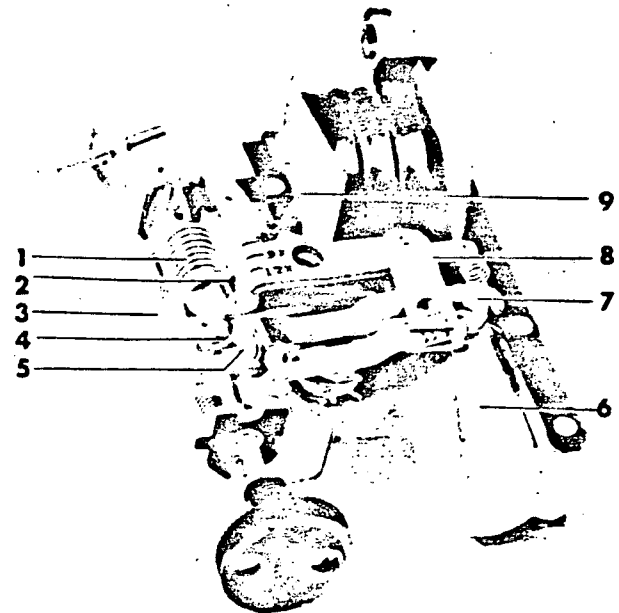

Figure 11. (8024843) EC-2 Overcurrent Trip With Cover Removed.
The high set instantaneous pick-up value may have one of the following three ranges: 4 to 9 times coil rating; 6 to 12 times coil rating or 9 to 15 times coil rating. The pick-up setting may be varied by turning the instantaneous trip adjusting screw (4), Figure 11.
Three standard calibration marks will appear on the operating arm at (9), Figure 11, and the value of these calibration marks will be indicated
At the factory, the pick-up point has been set at the nameplate value of the instantaneous trip current. (Usually expressed in times the ampere rating of the trip coil.) The variation in pick-up setting is accomplished by varying the tensile force on the instantaneous spring. Turning the adjustment screw changes the position of the movable nut (2), Figure 11, on the screw. The spring is anchored to this movable nut so that when the position of the nut is changed, there is a corresponding change in the spring load. As the spring is tightened, the pick-up point is increased. The top edge of the movable nut (2), Figure 11 serves as an index pointer and should be lined up with the center of the desired calibration mark, punched slots on operating arm, to obtain the proper instantaneous trip setting.
The tripping time may be varied within the limits shown on the characteristic curves by turning the time adjustment screw (5), Figure 11. Turning in a clockwise direction increases the tripping time;
counter-clockwise motion decreases it. The dashpot arm (7), Figure 11 is indexed at four points, maximum -  $2/3$  -  $1/3$  - minimum from the left, as viewed in Figure 11. When the index mark on the connecting link (8), Figure 11, lines up with a mark on the dashpot arm, the approximate tripping time as shown by the characteristic curve is indicated. The 1A and 1B characteristic devices are shipped with this setting at the  $2/3$  mark and the 1C characteristic at the  $1/3$  mark. The standard characteristic curves are plotted at the same settings.
Time values are inversely proportional to the effective length of the dashpot arm. Therefore, the linkage setting that gives the shortest time value is the one at which dimension "A" Figure 11, is greatest. The time adjustment screw (5), Figure 11, may be turned by inserting a Phillips head screwdriver through the hole in the front of the case, but if it is desired to relate the linkage setting to the index marks on the linkage it will be necessary to remove the case. This may be done by removing the two mounting screws, one on each side of the case, which may be taken off without disturbing the trip unit itself.